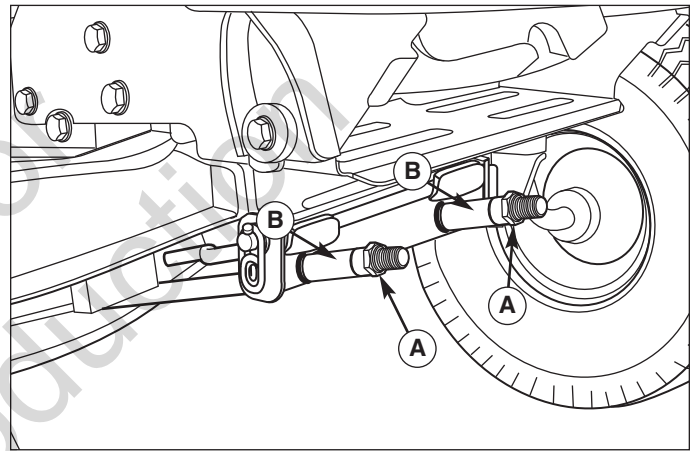

Figure 35. Leveling The Mower Front-to-Back
8. To raise front of mower deck, tighten locknuts (A, Figure 35) against spacers (B). To lower front of mower deck, loosen locknuts (A). Locknuts must be turned evenly on both sides to keep deck level.
9. Re-check the blade measurement then tighten the front locknut (A) against the bracket to secure.